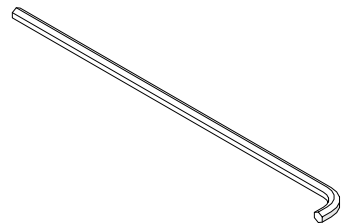

Fig. 19 - Short 2 mm hex wrench
- ▶ The short 2 mm hex wrench may adjust the index nuts along the frame bar (Fig. 19).